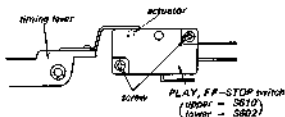

Fig. 3-7. PLAY, FF-STOP switch (S602, 610) position adjustment
- Place the unit in the FF or REW mode, to energize the brake solenoid. Check to see that the actuator of microswitch is perfectly pushed with the timing lever as shown in Fig. 3-7. If necessary, adjust the position of the micro-switch by loosening the two switch holding screws.